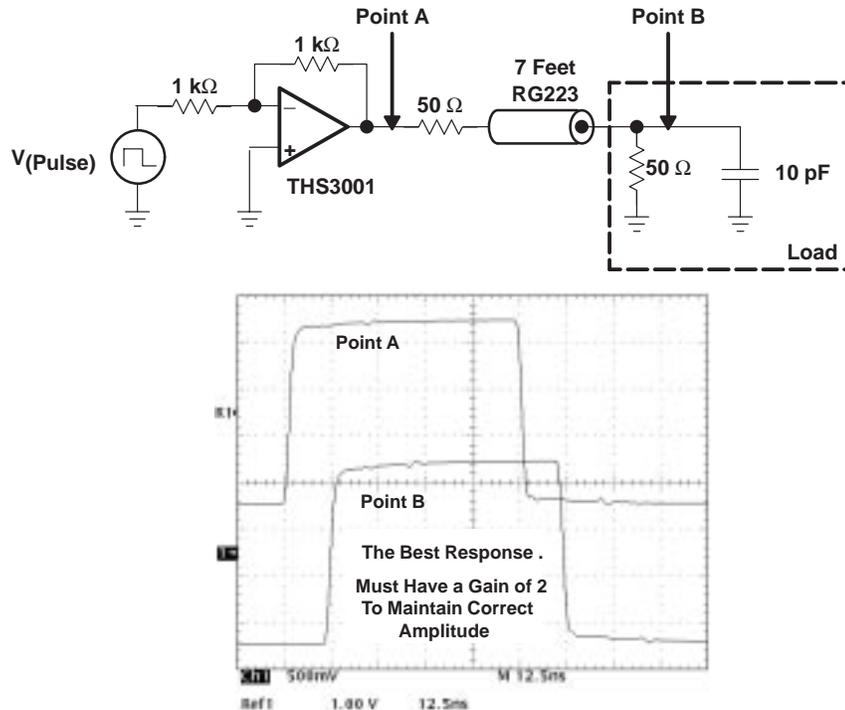

Figure 5. Correct Termination
- If a 6-dB signal reduction is acceptable for signal distribution, a transmission line can be made reflection free by adding a series resistor to the amplifier output and a terminating load resistor at the end of the transmission line at the destination device input. This is shown in Figure 5 with different values for the termination resistors. Output and series resistor together, also input and shunt resistor together, must be equal to the characteristic line impedance. The series resistor isolates capacitive loads from the amplifier output. Capacitive loading directly on the amplifier output will decrease the device's phase margin leading to high frequency ringing or oscillations. Therefore, it is recommended that a resistor be placed in series with the output of the amplifier. If the attenuation loss of the double termination is unacceptable, a termination at one end only might be the solution with the involved restricted signal quality.